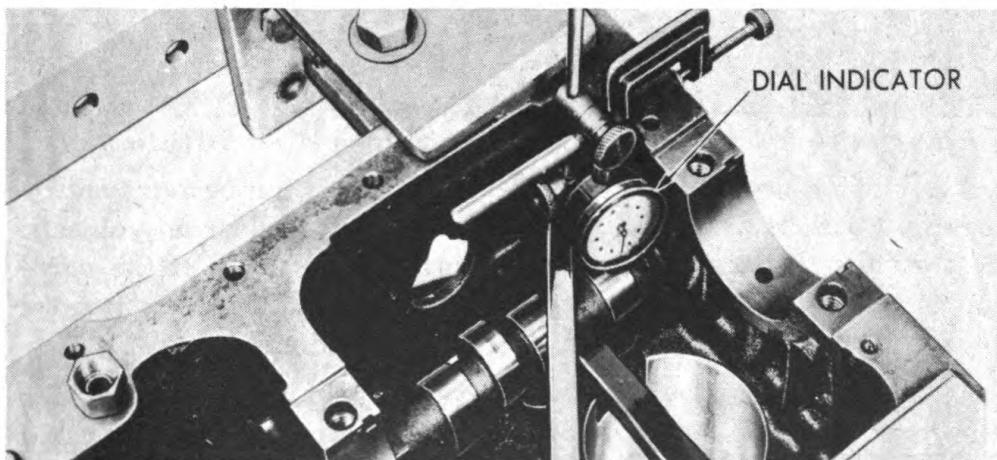

Figure 86—Measuring Camshaft Bearing Clearance
89. MEASURE CAMSHAFT BEARING CLEARANCE— (Figure 86.)